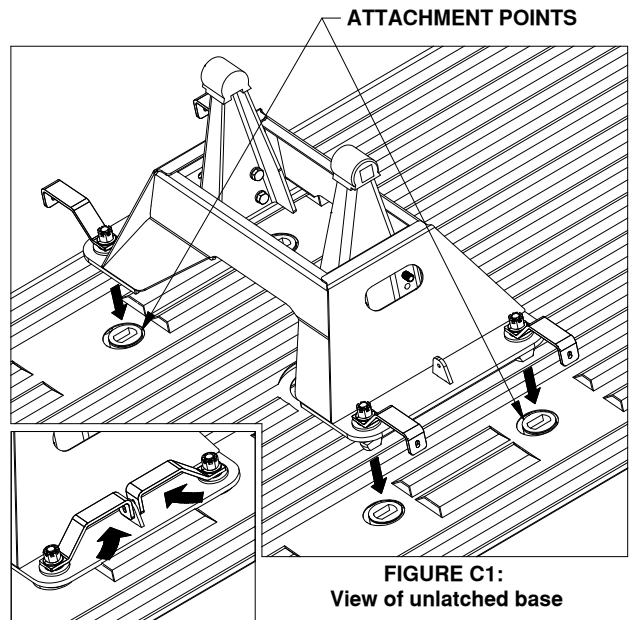

FIGURE C1:
1. Remove the latch pins from each side of the base and rotate the handles out, see figure C1. Place the Companion base over the attachment points and carefully lower it until the latch cams pass through the floor and the base rests flat against the top of the attachment points.